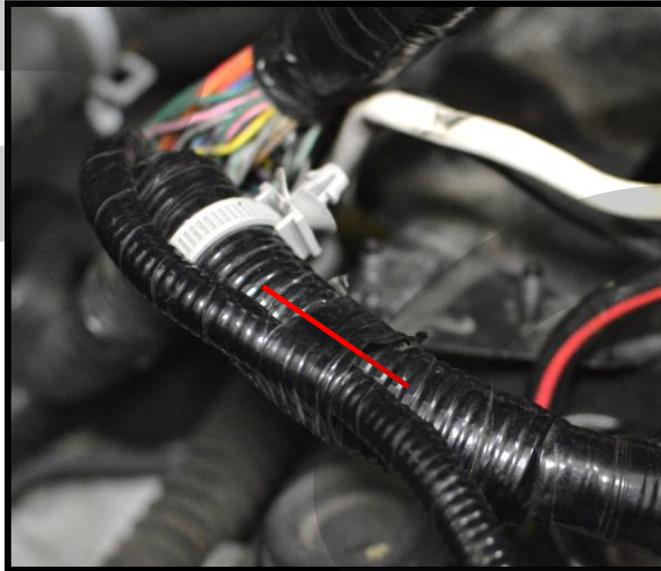

Figure 2d
- d) Cut the tape holding the MAF wire to the wiring harness. Shown with the red line in Figure 2d.